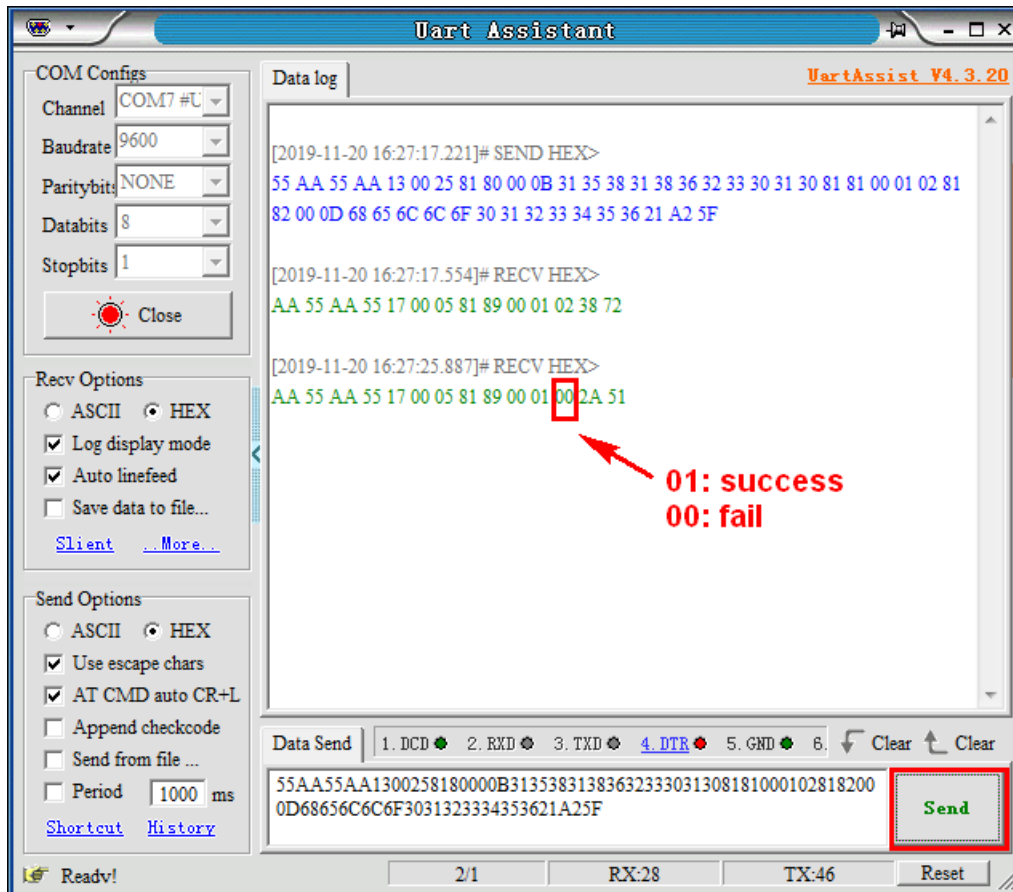

Figure 4-11-9 Failure to send a short message
Step 3: Click **Send**. After the short message is sent, serial port 1 receives two acknowledgment instructions, among which the second instruction indicates whether the sending succeeds (01: succeeded; 00: failed), as shown in Figure 4-11-9.